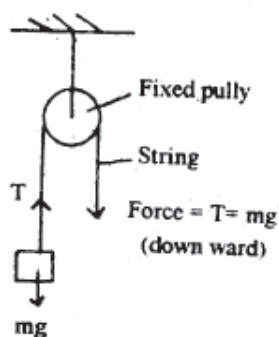

Fig. 5.2
- (ii) A fixed pulley only changes the direction of force and not its value (Fig. 5.2).